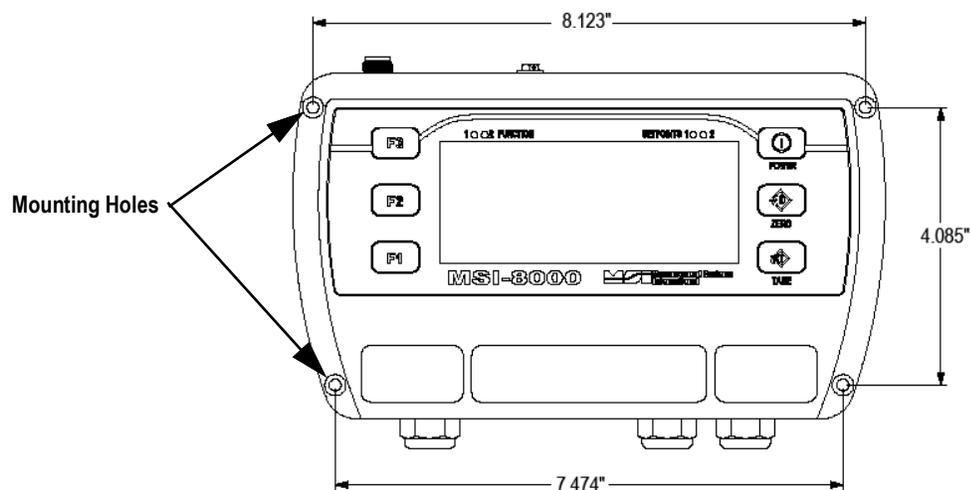

Figure 2-3. Mounting Hole Dimensions
2. Mark the hole location. This can also be done by measuring according to the dimensions in Figure 2-3.